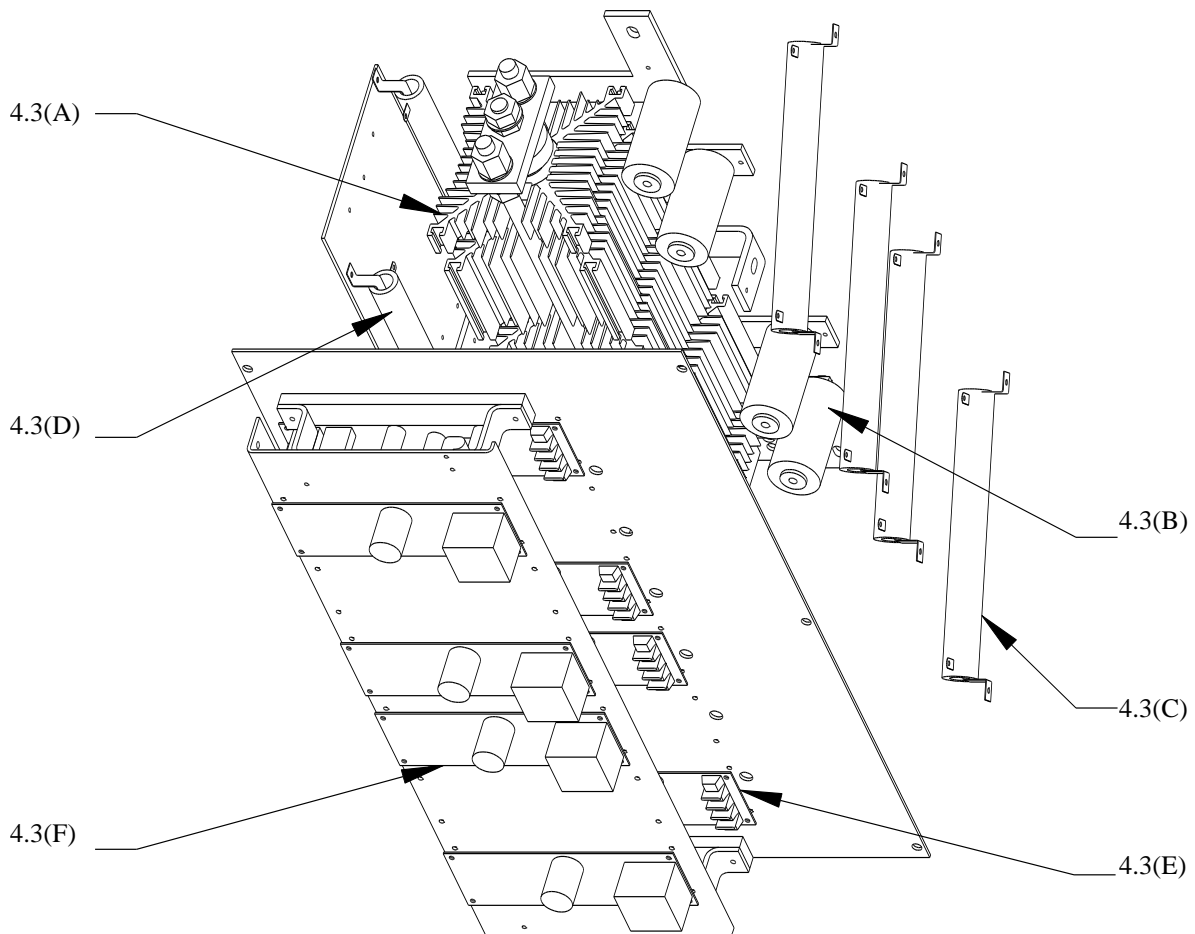

Figure 4.3 – Line Side Converter Components
- 4.3 (F) -power supply boards
- (See Figure 4.3)